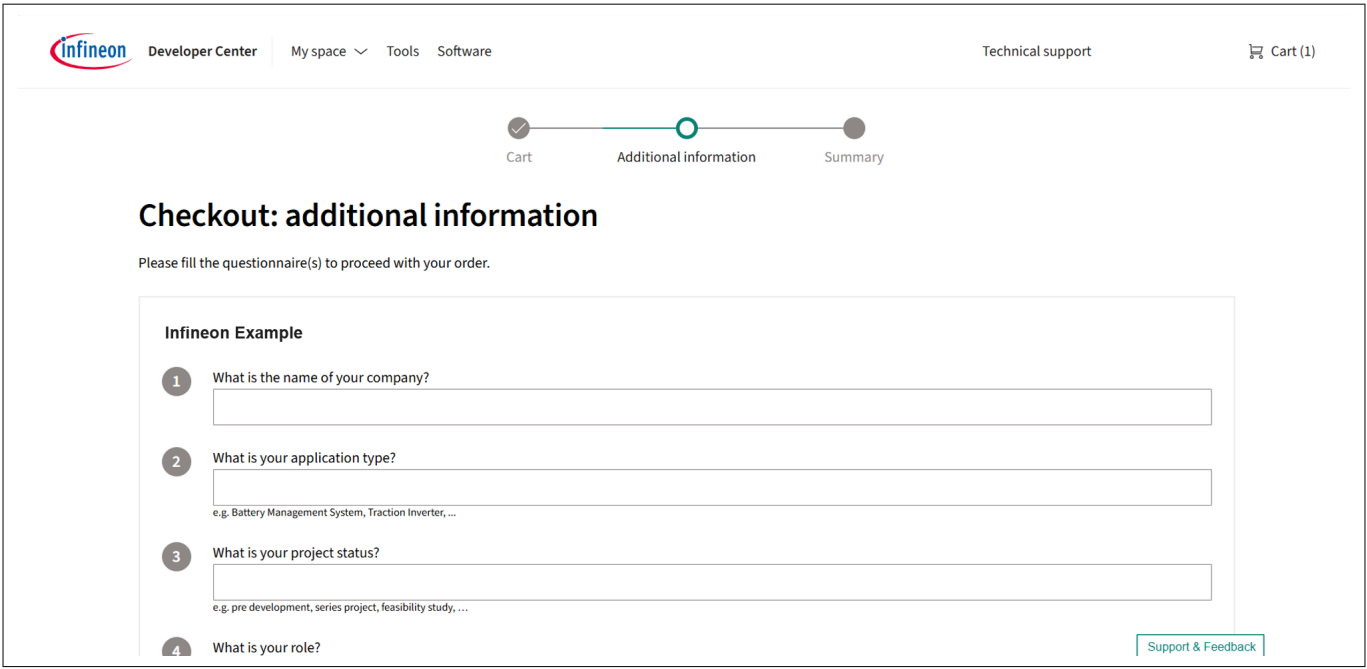

Figure 12 Requesting download of software package
6. Fill in the questionnaire, accept the license terms, and click **Submit request**, as shown in Figure 12